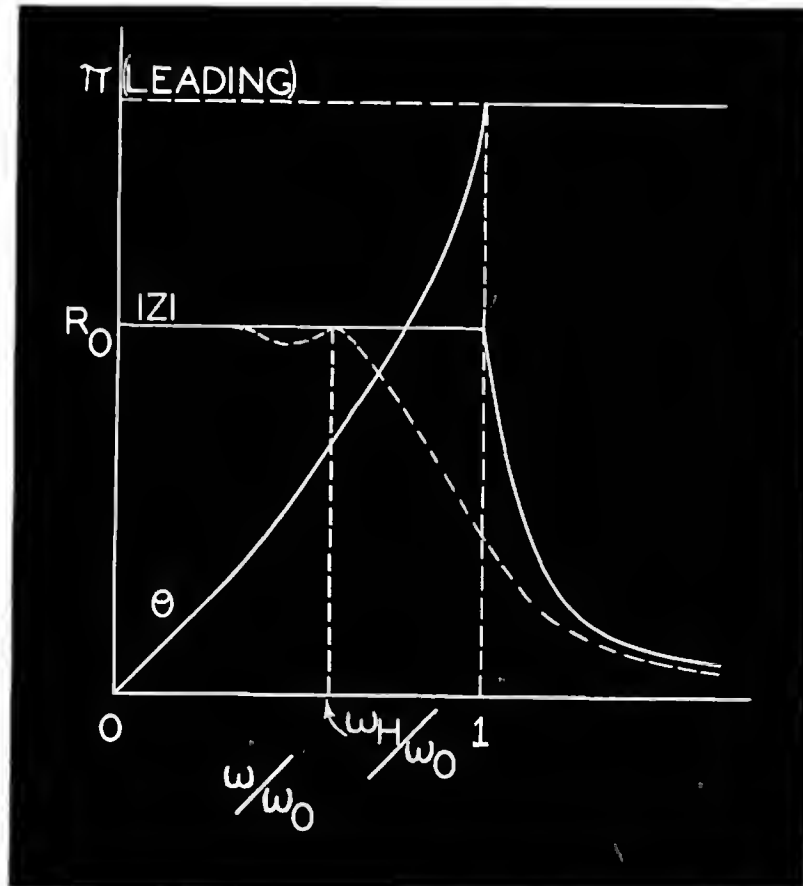
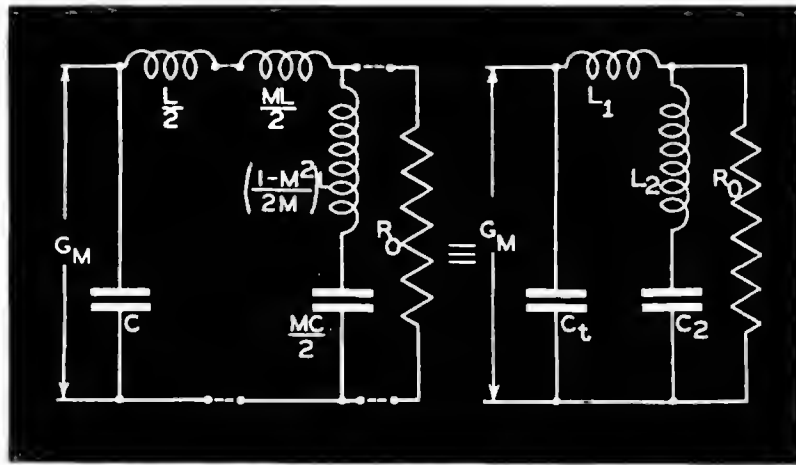

Figure 9
Figure 11
However, the impedance looking into an m-derived section terminated in  $R_0$  is more nearly that of the true image impedance up to a point very close to the cut-off frequency than is that for its prototype, the constant k section, similarly terminated, particularly for  $m = 0.6$ . Hence, if we take a half section and terminate its T end with a series m-derived half section terminated itself in the normal image impedance  $R_0$ , then the impedance looking into the  $\pi$  end of the constant k half section will be very closely that of a perfectly terminated section up to pretty nearly its cut-off frequency. If an equal amount of capacity be added to its  $\pi$  end (as per the method of Percival) then the impedance will be very close to that given in Figure 9. The circuit is shown both in synthesis and in final form in Figure 11, where the values for the various circuit parameters are also indicated. As stated in the Figure, the frequency  $f_H$  at which the response begins to fall off is about 95% of the cut-off frequency according to Wheeler3, and experimentally it has been found
quency although its phase angle increases with increase of the above ratio. The actual plot of Eq. (10) is given in Figure 9. It is at once evident that such a load impedance in the plate circuit of a video amplifier stage will have a perfectly flat gain up to the cut-off frequency  $\omega_0$  and then will drop off asymptotically to zero. This indicates a very desirable state of affairs, but it must not be overlooked that the phase shift is not strictly linear with frequency in the pass band and will thus offset to a certain extent its favorable amplitude characteristic.
amplitude response are shown by the broken line curve in Figure 9.
followed by another half section thus forming a complete  $\pi$  section before termination with  $R_0$ . The band width is thereby increased. In (C) we see the circuit of B further built out with an additional half section before termination with  $R_0$ , and the band width is correspondingly greater. In (D) we see a simpler configuration which is equivalent to that shown in Figure 11 in which a shunt m-derived section is employed. The optimum value of m in either case is about 0.6. A more accurate evaluation of the circuit parameters of this configuration will be given further on.